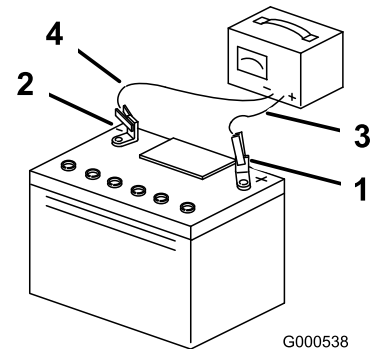

Figure 36
5. When the battery is fully charged, unplug the charger from the electrical outlet, and disconnect the charger leads from the battery posts (Figure 36).